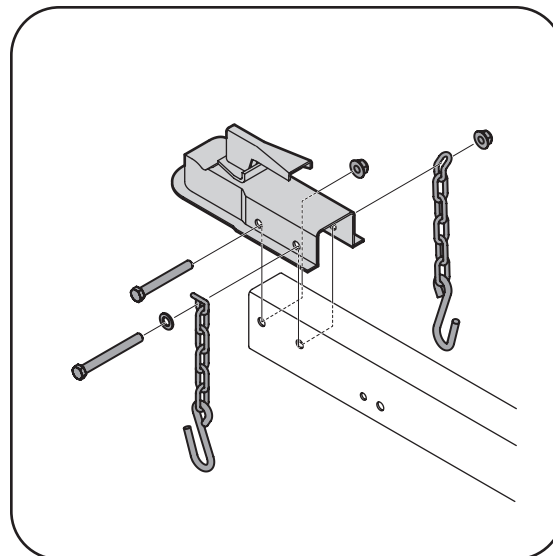

Figure 3-3
2. Insert hex bolt through flat washer, end of safety chain, and then rear hitch hole. Pivot the end of safety chain so it faces the ball end of hitch. See Figure 3-3.